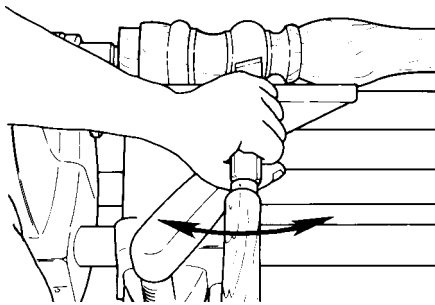

Figure C-46
- a. Cut the beads first. Feed the edge of a skew chisel slowly into the stock, then move the handle of the skew from side to side as needed to shape the beads. See Figure C-46.